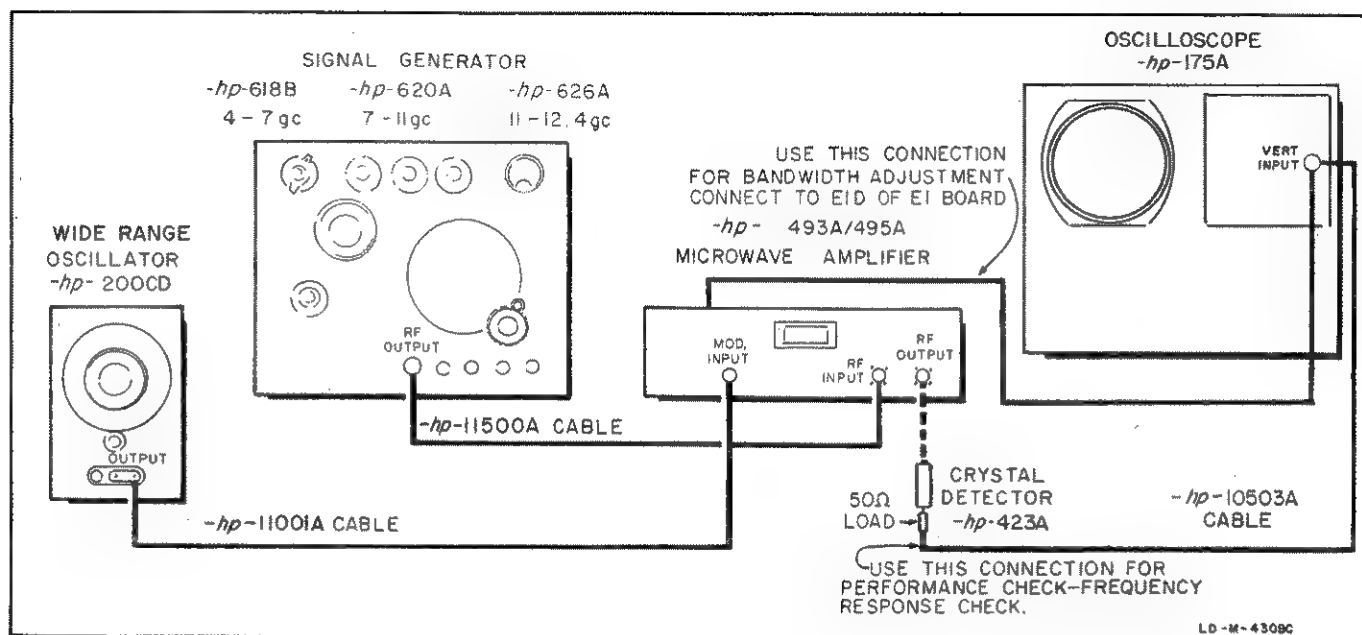

Figure 5-7. Bandwidth Setup
a. Connect the Model 493A as shown in figure 5-7.